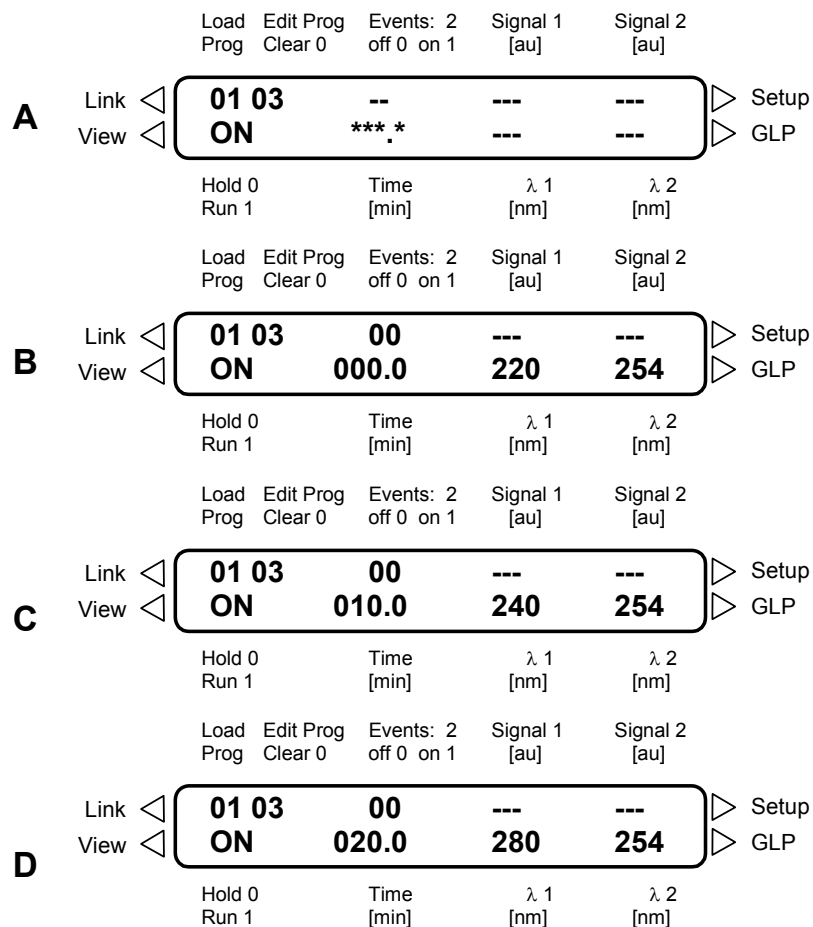

Fig. 16 Four steps for creating a program
4. Press \triangleright to go to field $\lambda 1$. Enter desired wavelength. Move cursor to field $\lambda 2$ and enter your second desired wavelength. The display should resemble section B in Fig. 16 on page 19.
5. Press ∇ to create a new program. The display should resemble section C in Fig. 16 with the blinking cursor on the first asterisk.
7. Repeat the last two steps, define time step 20.0 min and enter 280 nm. The display should resemble section D in Fig. 16.